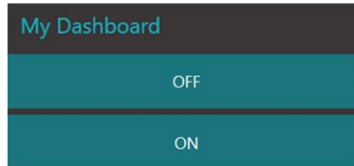

Figure 8.24 Turn the LED ON and OFF
- Join all the nodes and click **Deploy** and display the Dashboard as shown in Figure 8.24. Click **ON** to turn ON the LED, and **OFF** to turn OFF the LED